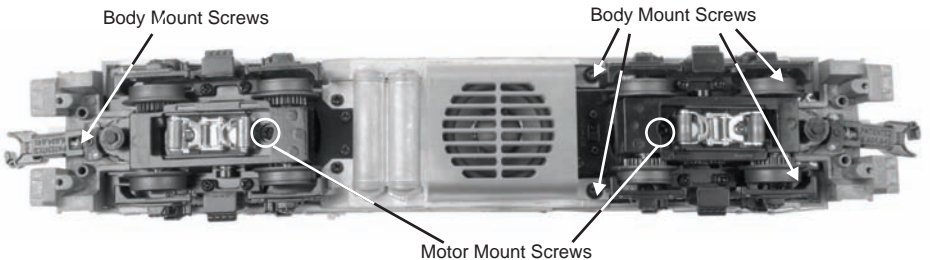

Figure 7. Body Removal Screws and Motor Mount Screw Locations
1. To access the gear box, remove the cab from the chassis by unscrewing the body mount screws as seen in Figure 7 and lifting the cab from the chassis.
2. Once the cab is removed, remove the trucks by unscrewing the black Phillips motor mount screw located on the underside of the drive trucks (see Figure 7).
First, remove the truck sides from the truck block. To do this, turn your engine upside down. If there are visible Phillips screw heads between the truck frame and truck block (see Fig. 7), go to step A. If not, go to step B.